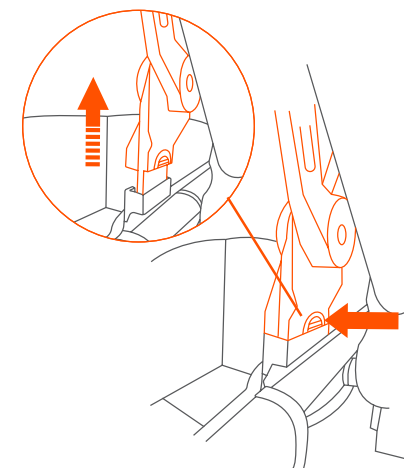

Fig. 13
13) • To remove the canopy: Press the tabs on both interior sides of the canopy and pull up to remove (Fig. 13).